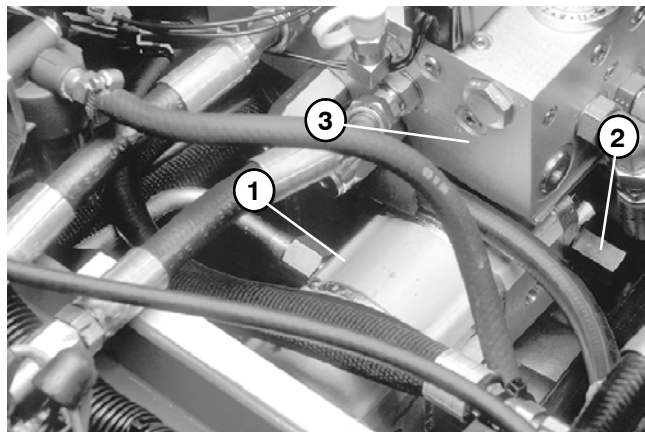

Figure 25
8. If pressure is maintained below **1250 PSI** or pressure goes beyond **1250 PSI**, adjust relief valve by removing the cap and turning the adjustment screw. Turn adjuster clockwise to increase pressure and counterclockwise to decrease pressure (Fig. 25).